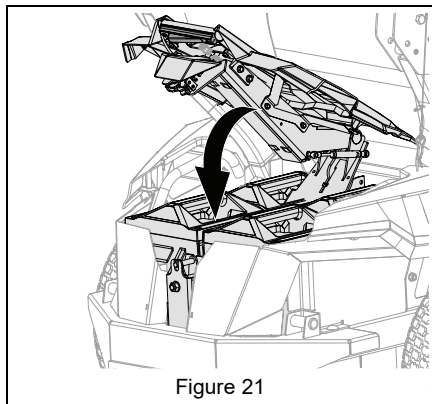

Figure 21
5. Ensure hood assembly is closed and handle is securely latched. See Figure 21.